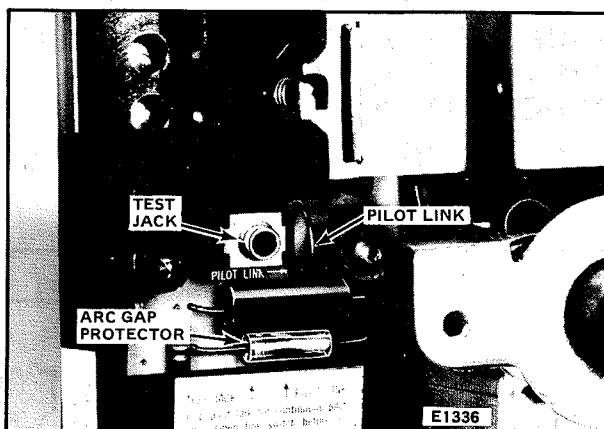

FIG. 8—LOCATION OF ARC GAP PROTECTOR ON THE RA890F.
For use with standing pilot systems. Clip the pilot link (wire loop in Fig. 8) as follows:
6. If the system has a standing pilot, make sure that the pilot link (Fig. 8) is removed and the pilot is lit.